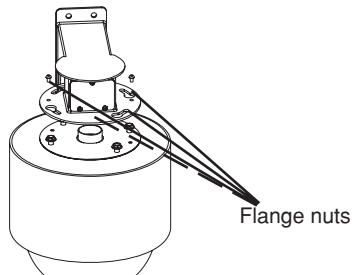

Figure 2
2. Loosen the (4) flange nuts, and turn the housing clockwise to remove the housing from the wall mount (Figure 2).